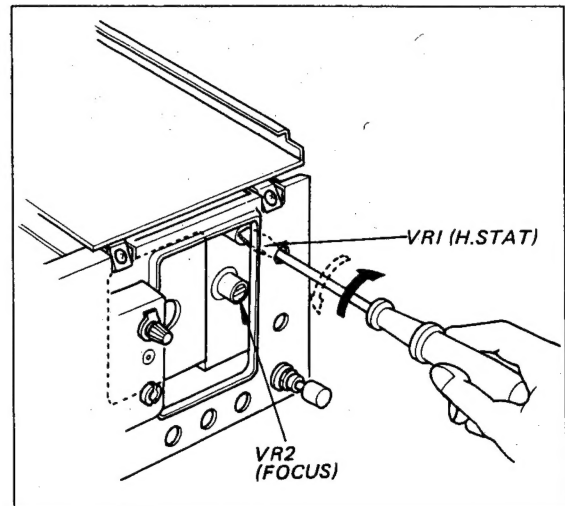
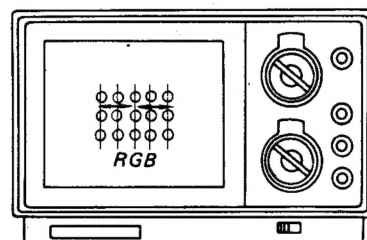

Fig. 3-9. H.STAT VR adjustment
Fig. 3-10. Dots movement
- (1) Adjust VR1 (H. STAT) to converge the dots horizontally at center of the screen as shown in Fig. 3-9 and Fig. 3-10. If this does not correct the convergence, proceed to Step (2).